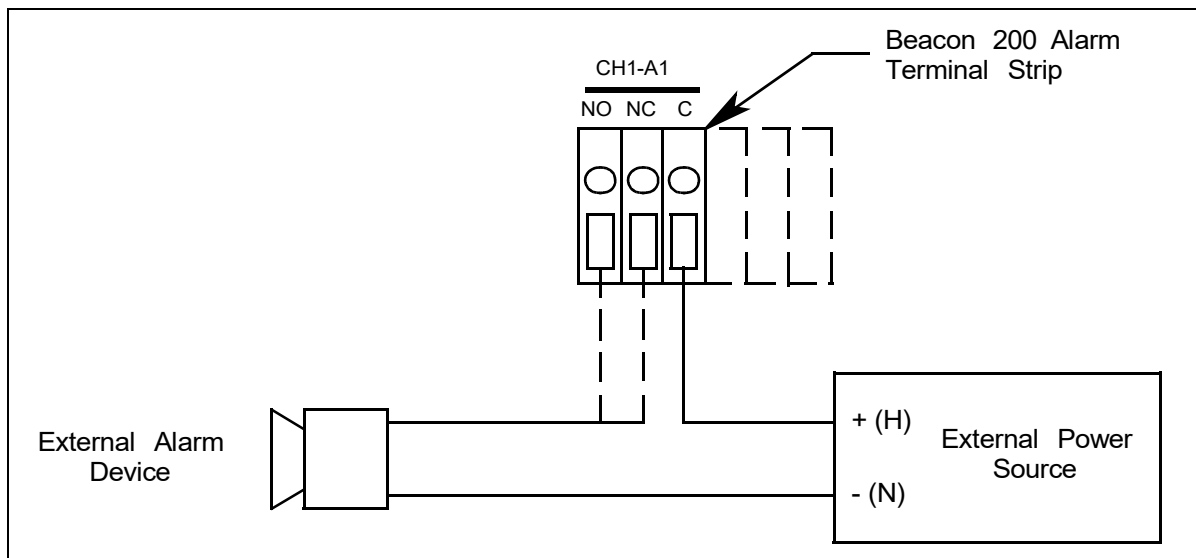

Figure 8: Typical External Alarm Wiring
5. Connect the leads from the external alarm device and power to the alarm terminals as shown in Figure 8.